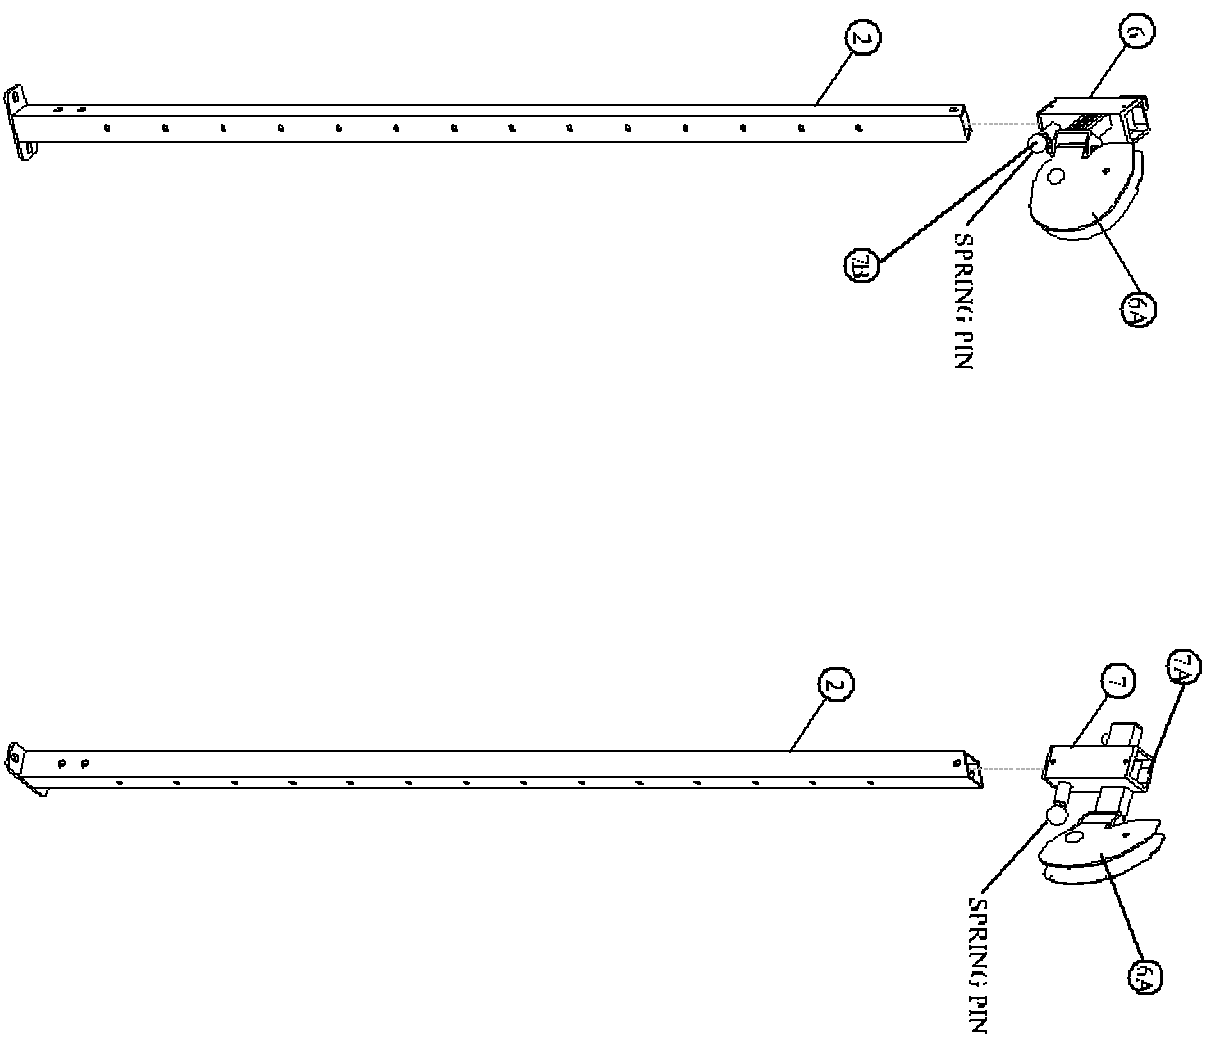

FIGURE 1
- Pull back SPRING PIN on the LEFT and RIGHT SWIVEL PULLEYS (6 & 7) and CAREFULLY slide them over the FRONT UPRIGHTS (2) as shown in FIGURE 1.